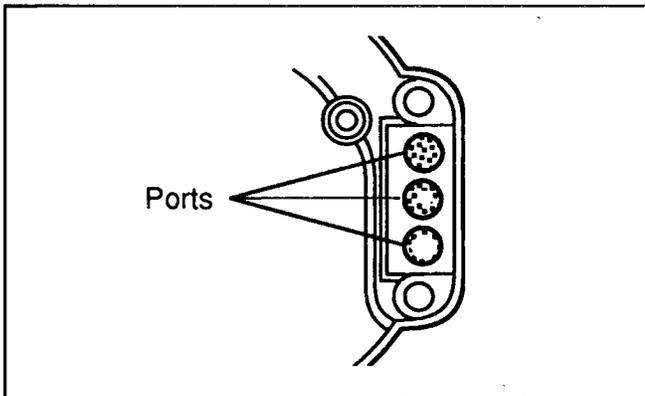

Figure 64
6. **Exhaust ports** should be inspected and cleaned as necessary (**Figure 64**).